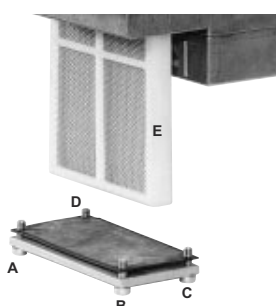

Fig. 43
- 2 Remove screws 1 ÷ 6 (Fig. 43).